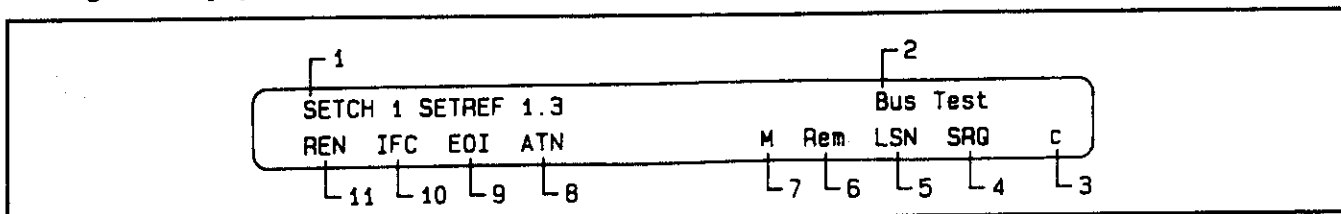

Figure 6-101. Bus Test Display
1. Refer to Figure 6-101. The bus test is a debugging aid. When selected, this command will cause the instrument to enter a special submode where the display is used to show information about the IEEE-488 interface. The information on the display can be broken up into four different groups. They are the Bus test message in the upper right, Bus operating status lower right, Bus line status lower left, and the present listen buffer image of the instrument in the upper left.